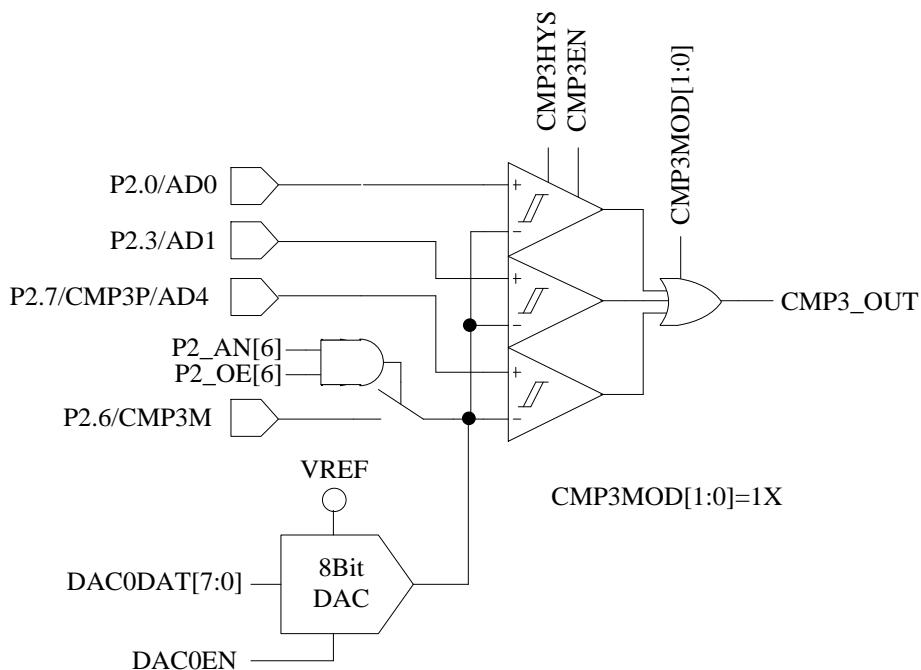

Figure 30-4 Triple-comparator Input Mode (CMP\_CR1[CMP3MOD] = 1X)
- When **CMP\_CR1[CMP3MOD]** = 1X, CMP3 works in triple-comparator input mode. The connection of input and output pins are as shown in Figure 30-4.